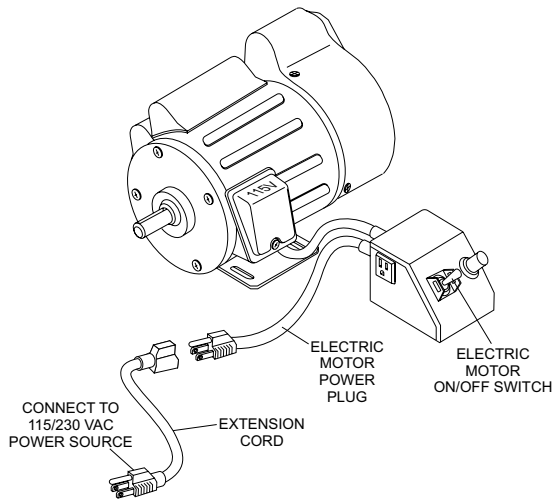

Figure 10. Extension Cord Connection
1. Place the power ON/OFF switch (Figure 10) in the OFF position (down).